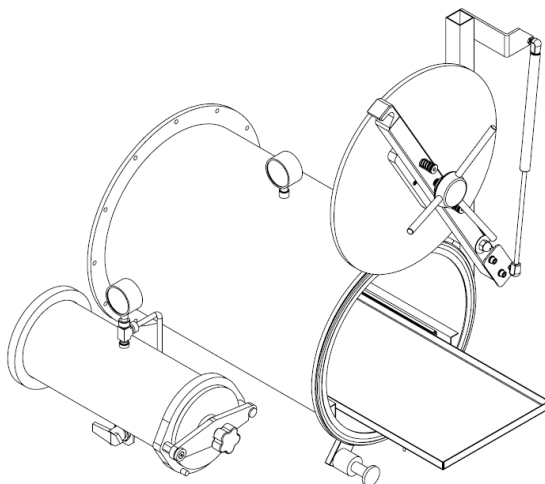

Figure 5 - 15" and 6" Mini Antechambers
This section details the manual operation of the Large and Mini Glovebox Antechambers in PureLab HE, specifically outlining the steps for transferring objects into and out of the glovebox. These steps are based on the assumption that the atmosphere inside the chamber is at 1 ppm and not open to the outside air. Refer to FIGURE 5 on page 27.
- Refer to FIGURE 5 on page 27 for a visual representation.